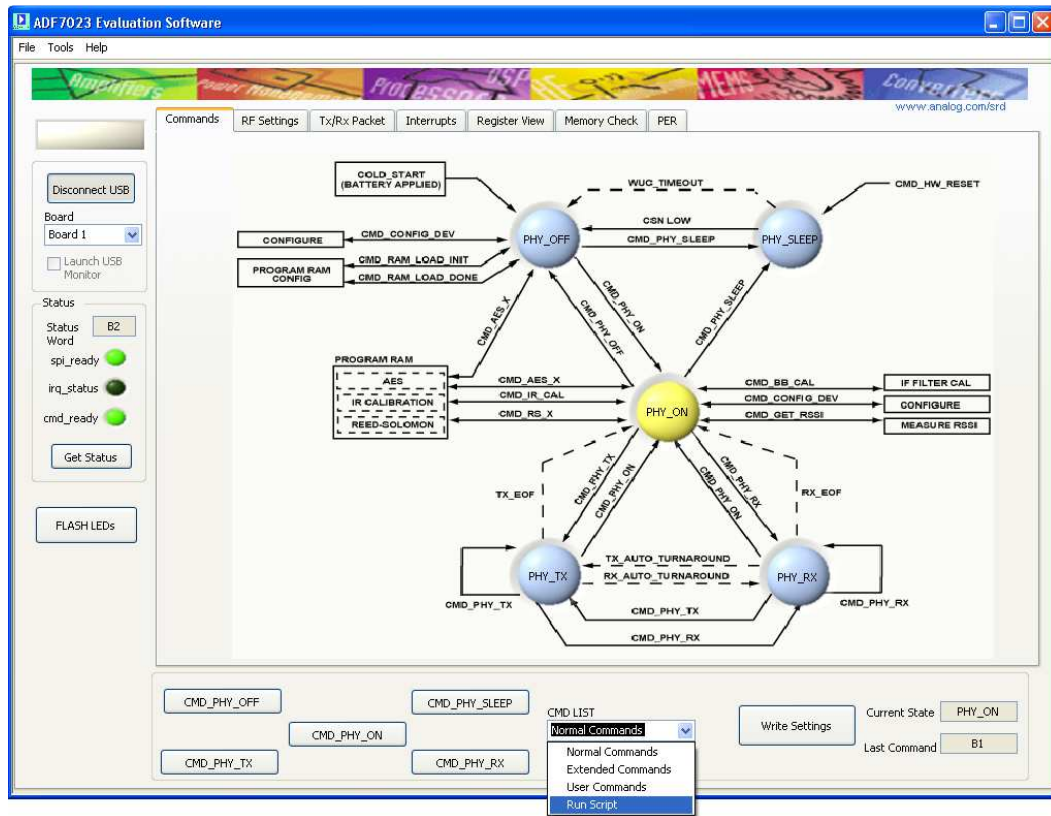

Figure 41
1. Select **Run Script** from the **CMD LIST** drop down menu as shown in *Figure 41*Figure 41.